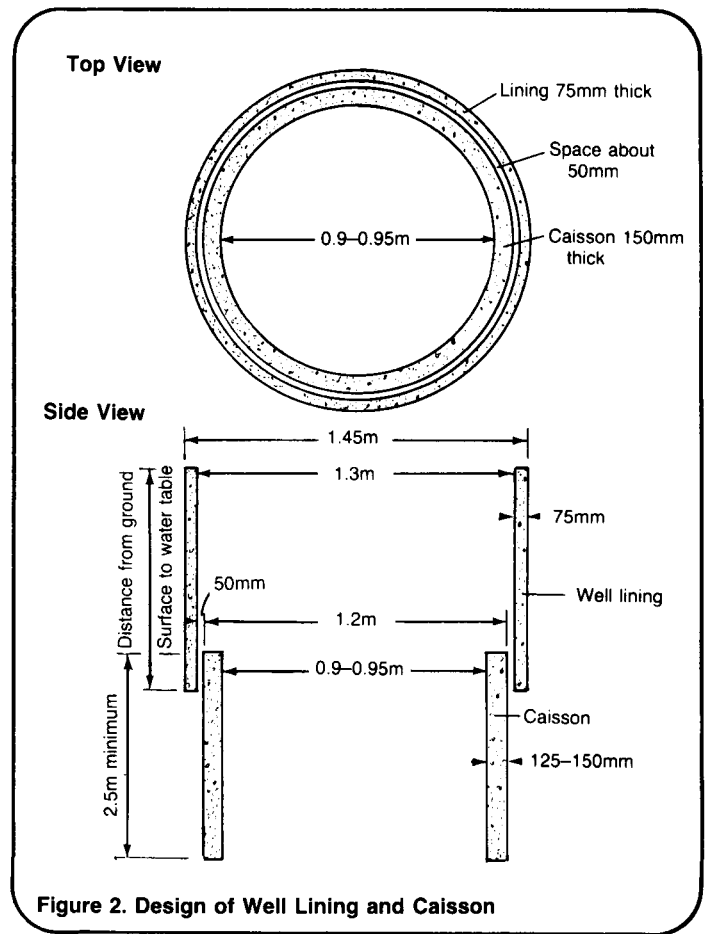

Figure 2. Design of Well Lining and Caisson
2. A design drawing similar to Figure 2.
26. The remainder of the well will be sunk using the caisson method. Before you can begin, the lining must be given time to harden so that you can remove the shutters. See Figure 2 for the way in which caisson rings fit into the lining.